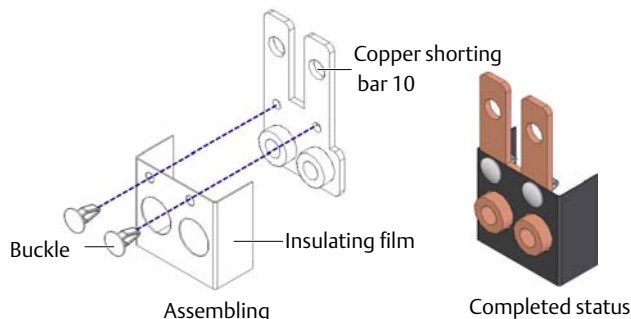

Figure 3-7 Attaching the insulating film to the copper shorting bar 10
2. As shown in Figure 3-7, attach the self-adhesive insulating film (accessory) on the copper shorting bar 10, and insert the buckles into the corresponding holes on the copper shorting bar 10.